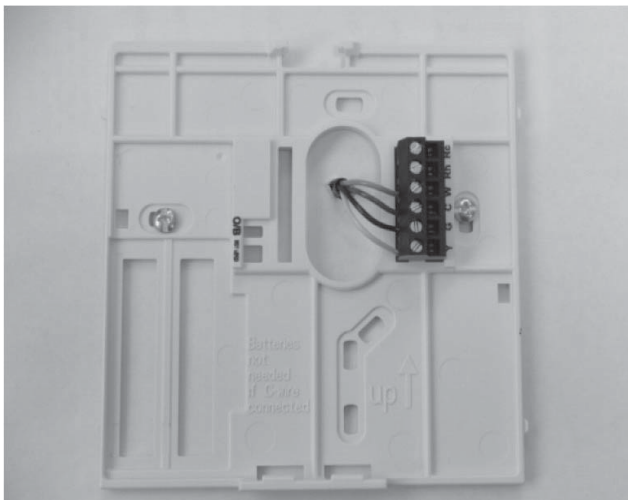

Fig. 2 - Secure Wires to Terminal Strip
7. Adjust length and routing of each wire to reach proper terminal and connector block on mounting base with 6.5mm of extra wire. Strip only 6.5 mm of insulation from each wire to prevent adjacent wires from shorting together when connected. See Fig. 2.